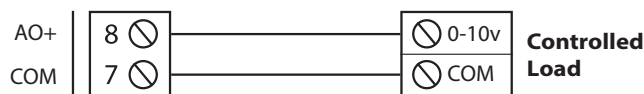

Figure 11 - Connecting the analog output (controller powered)
- 1) The VC2000 only provides a control signal (see Figure 11).